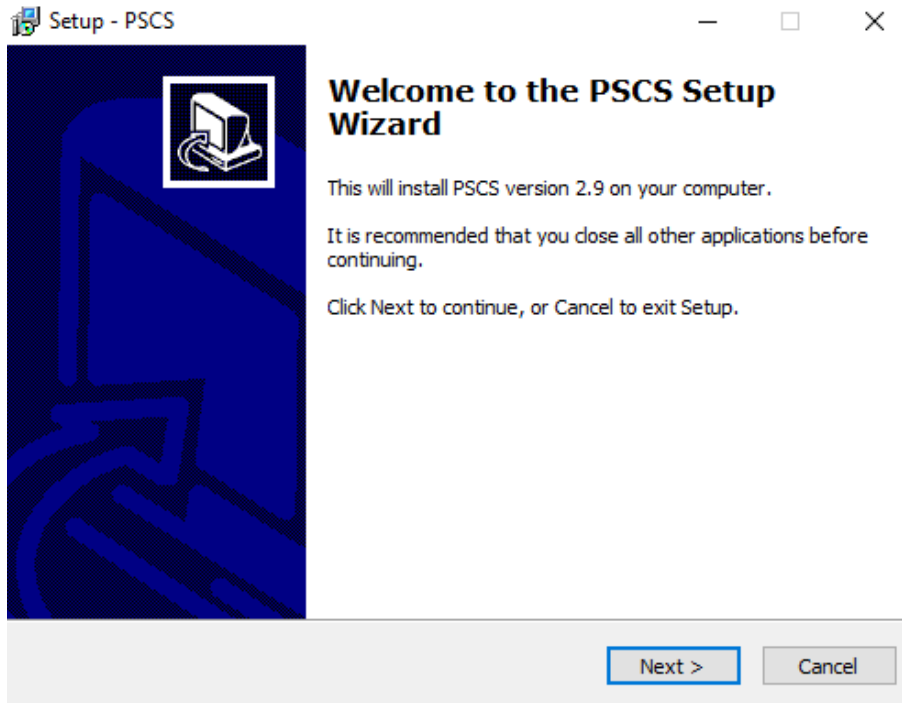

Figure 7.4
4. Click “Next” to continue. **Figure 7.4**